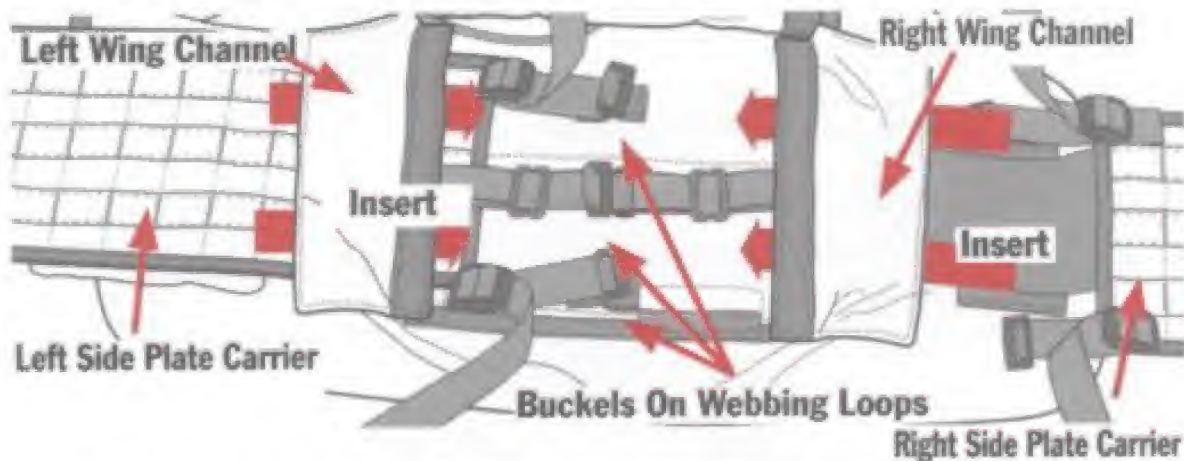

Fig. 27. Location of the Left Wing & Right Side Plate Carriers in Rear Carrier.
1. Lay Rear Carrier flat and route the left/right SidePlate Carrier under the left/right Wing Channel and position buckles on ends of 1-in. straps over the loops in the Rear Carrier as shown in Fig. 27.